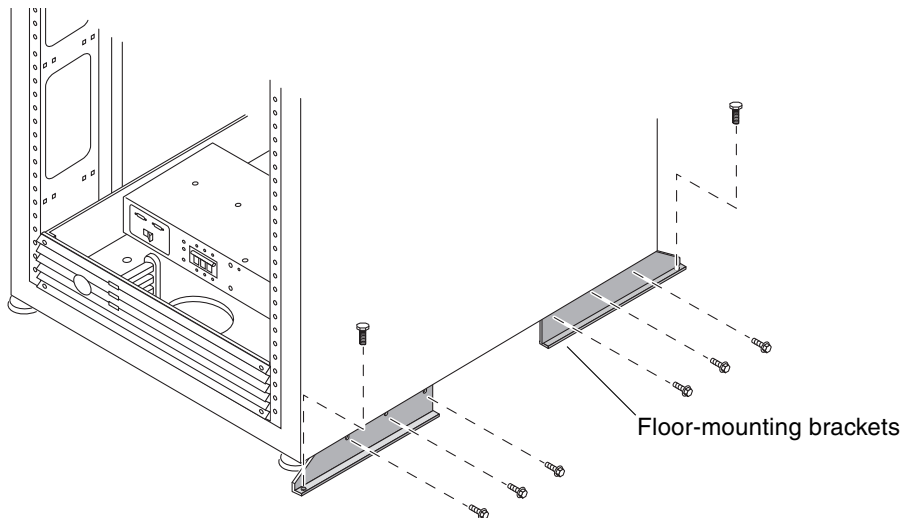

FIGURE 2-7 Attaching the Floor-Mounting Brackets
2. Using a 7/16-inch ratchet wrench and the mounting screws you just removed, attach the right floor-mounting brackets to the front and back of the system (FIGURE 2-7).